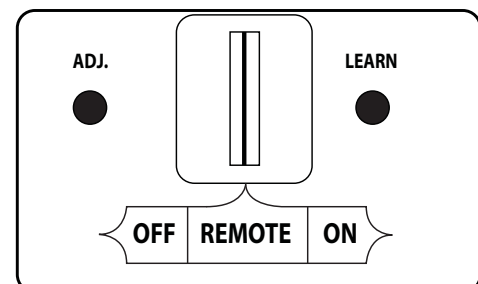

Fig. 11-2 Remote receiver detail (REMOTE)
1. Ensure the pilot is burning. Then locate the 3-position switch on the remote receiver (see Fig. 11-2), and slide the switch to the **REMOTE** position.